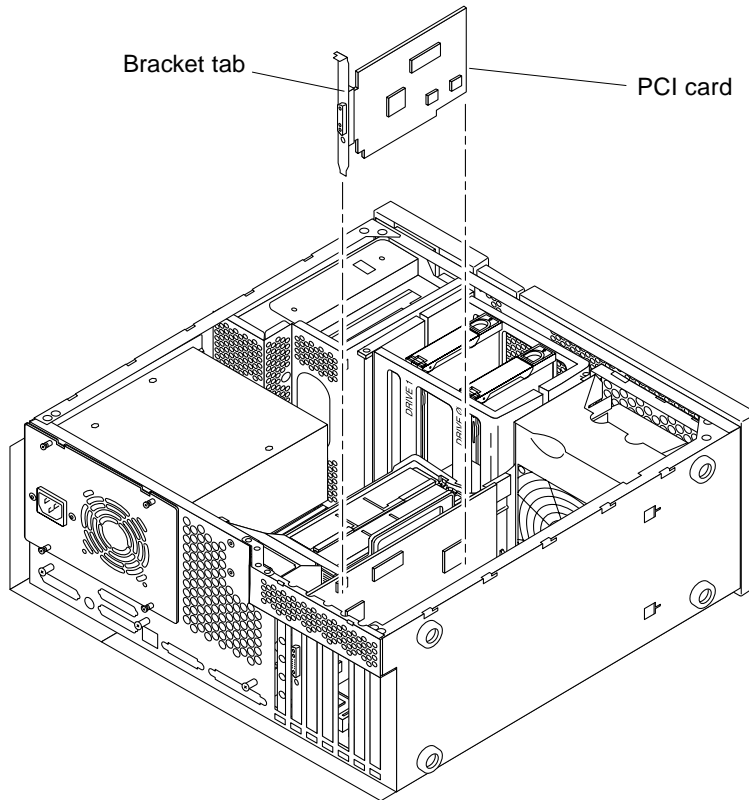
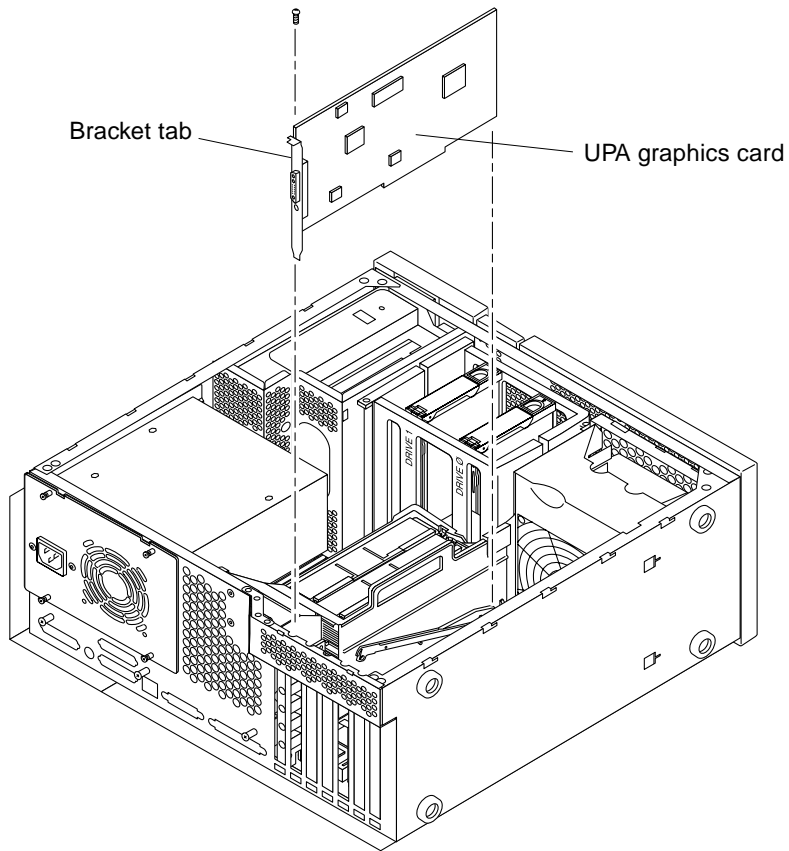

FIGURE 8-13 Removing and Replacing a PCI Card
FIGURE 8-14 Removing and Replacing a UPA Graphics Card
- 8. Replace any long PCI cards or UPA graphics cards (FIGURE 8-13 and FIGURE 8-14).**